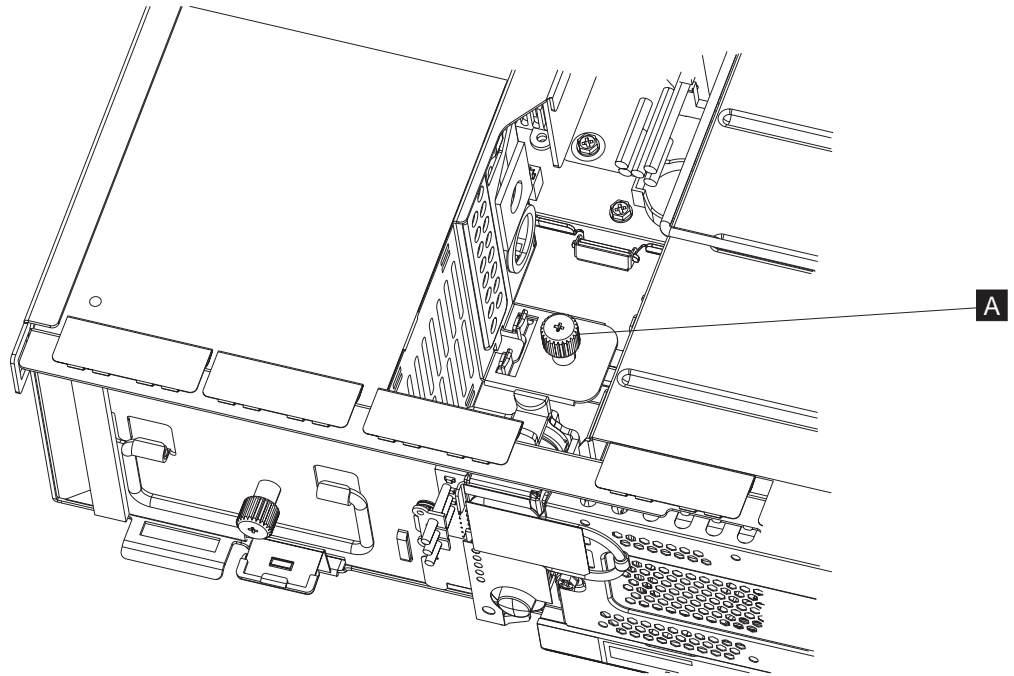

Figure 30. Loosening the spline screw
4. Completely loosen the spring screw ( **A** in Figure 30 on page 41) holding the front of the spline down to the pullout tray.